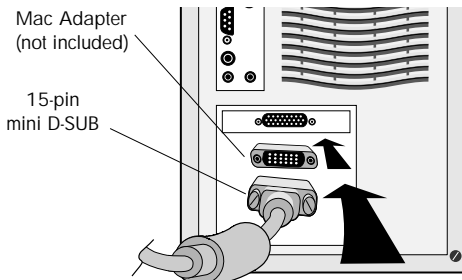

Figure B.1
3. Connect the MultiSync LCD1510, MultiSync LCD1510V or MultiSync LCD2010 Macintosh cable adapter to the computer (Figure B.1). Attach the 15-pin mini D-SUB end of the appropriate signal cable to the MultiSync LCD1510, MultiSync LCD1510V or MultiSync LCD2010 Macintosh cable adapter (Figure B.1). Tighten all screws.